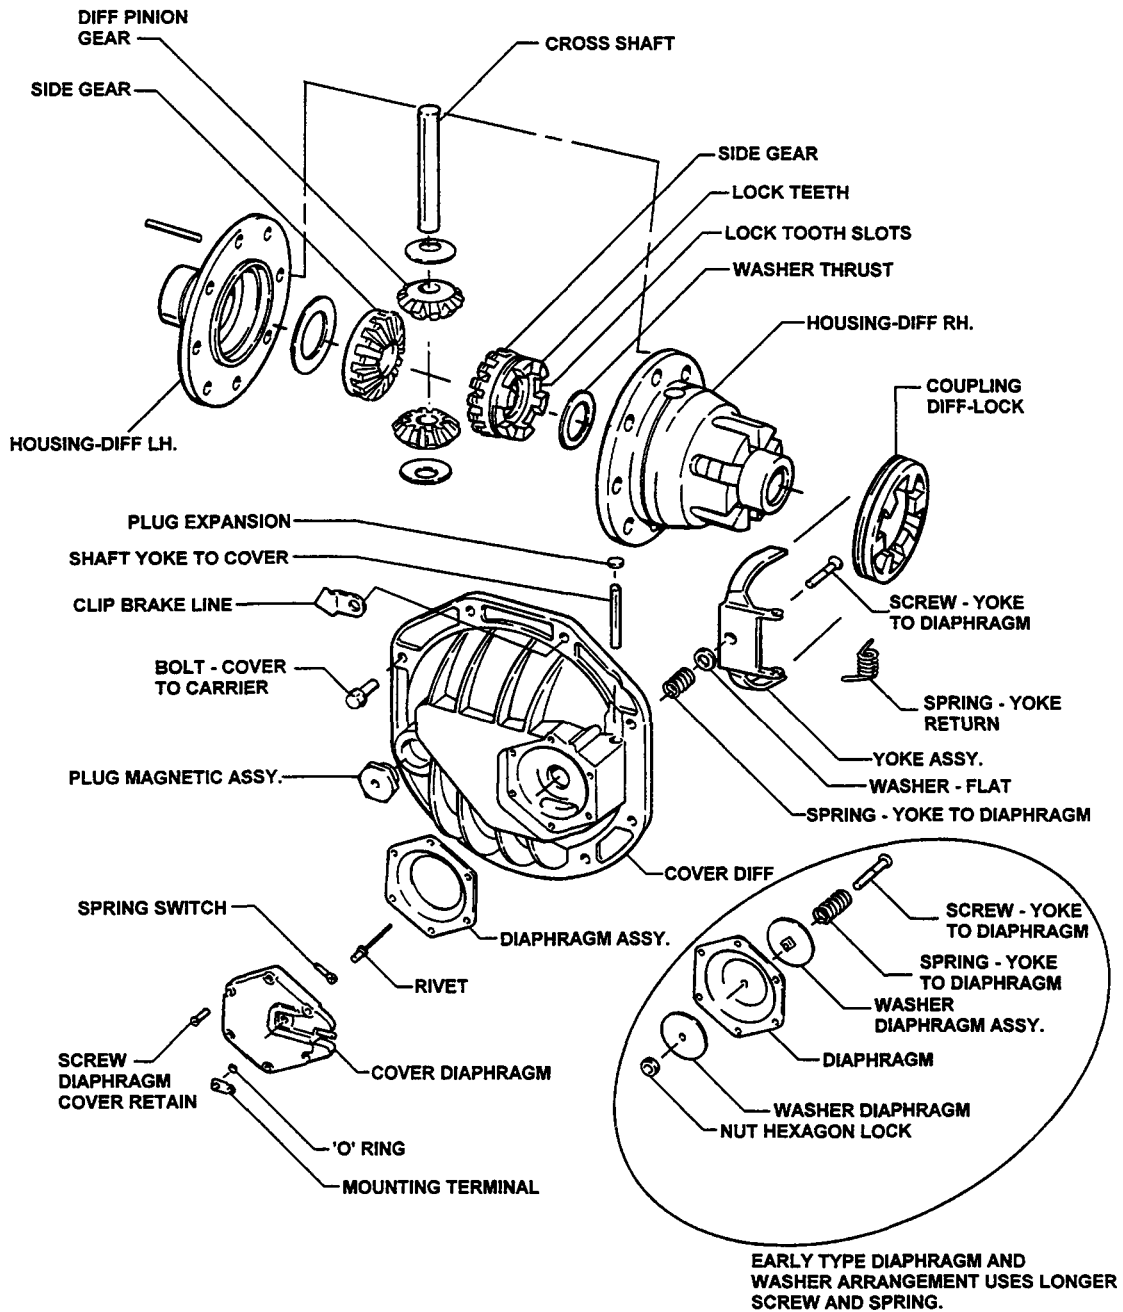

Figure 1
- Earlier models have two washers and a self-locking nut to retain the diaphragm. Later models have a integral diaphragm and washer assembly (see Fig. 1). Be sure to re-assembly in the correct sequence (Fig. 1).